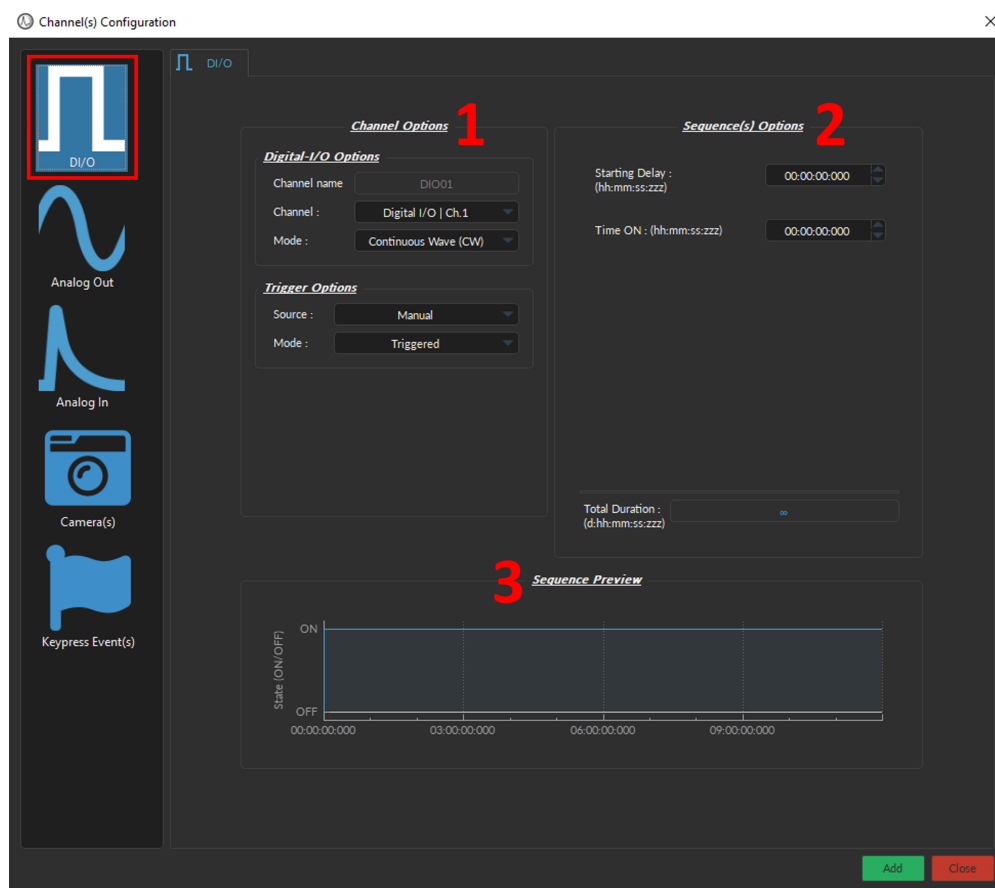

Figure 5.13: *Channel(s) configuration window, Digital I/O - CW mode*
- The **CW (Continuous Wave)** channel mode (Fig. 5.13) allows the creation of a continuous TTL pulse sequence. The following elements appear in the **Sequence Options** box.